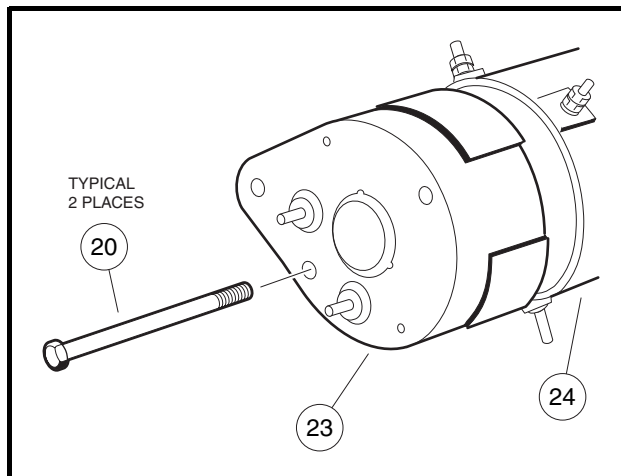

Figure 12-2 Commutator End Cover
1. Remove the two bolts (20) and pull commutator end cover (23) free of starter/generator housing (24) (Figure 12-2, Page 12-2). See following NOTE.
3. Install the commutator end cover (23) onto the armature shaft. Align the locating pin with the pin hole in the cover. Install two M6 x 180 mm bolts (20) and tighten to 100 in-lb (11.3 N·m) **(Figure 12-2, Page 12-2)**.
2. Remove the two bolts (20), and pull commutator end cover (23) free of the starter/generator housing (24) **(Figure 12-2, Page 12-2)**.
9. Install the commutator end cover (23) onto the armature shaft. Align the locating pin with the pin hole in the cover. Install the two M6 x 180 mm bolts (20), and tighten to 100 in-lb (11.3 N·m) (**Figure 12-2, Page 12-2**).